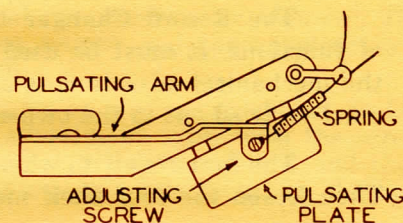

FIGURE 2
B. The pulsating plate in the trip mechanism is actuated by the pulsating arm and the cam on the underside of the turntable. If the pulsating arm is loosely riveted to the bracket, the screw on the end of the pulsating arm will move back and forth over the pulsating plate. This changes the distance the plate is lifted by the pulsating arm and affects the trip adjustment. A spring has been added in production to hold the end of the lever under tension so that it does not move "in" and "out" and change the trip adjustment. On record changers not equipped with this spring, use the lead spring Part No. 28-8919 and connect as shown in Figure 2. Attach the spring to the wiring terminal on the end of the bracket and to the adjusting screw. Check to make sure that the pulsating roller does not scrape the hub on the under side of the turntable.
C. Flutter and change of speed is caused by friction in the vertical drive assembly and by the action of the regeneration spring (item 21 in Service Bulletin No. 402). The following changes involving the regeneration spring and the vertical drive assembly should be made on every changer on which there is an opportunity to do so.